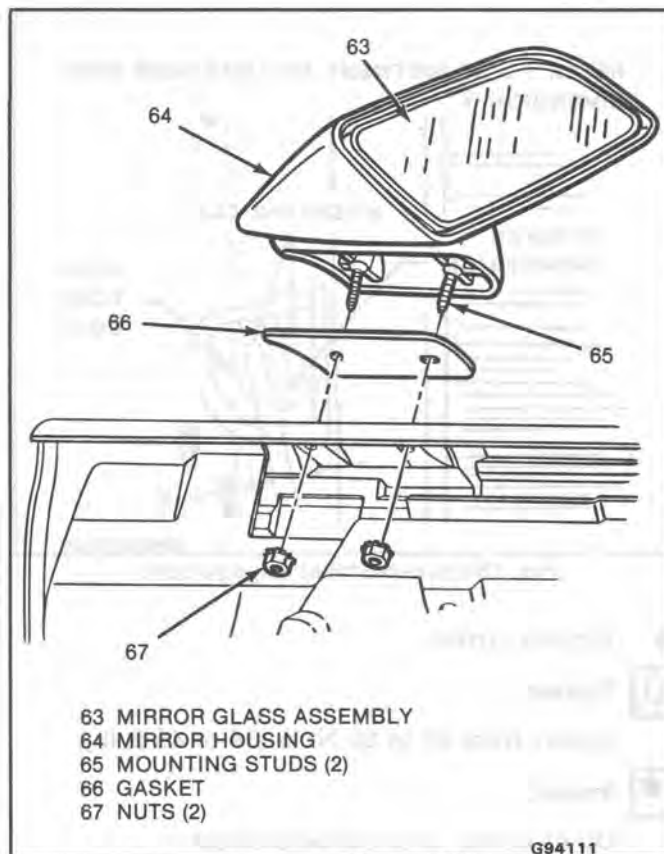

Fig. 19-Outside Mirror - Manual
**OUTSIDE MIRROR****Outside Mirror - Manual****Remove or Disconnect (Figure 19)**
3. Mirror attaching nuts (67)
4. Mirror (64)
**Install or Connect (Figure 19)**
1. Mirror (64)
#### ↔ Remove or Disconnect (Figure 19)
#### →← Install or Connect (Figure 19)